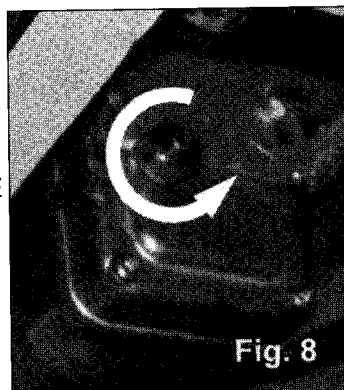

Fig. 8
4. With a second person assisting, one person must push and hold the MANUAL OVERRIDE switch (Fig. 3C; pg. 5) in the unit, located on the control panel, while the other person, using a 5/8" wrench or socket/ratchet combination, rotates the hex head MANUAL OVERRIDE (Figs. 8 & 9) to manually move the slideout.